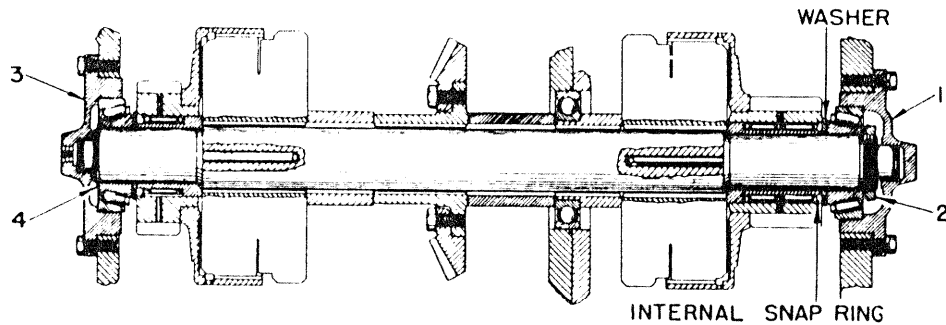

Figure 7
2. Disconnect the hydraulic line to bearing retainer (3) Figure 7.
4. Remove the R. H. bearing retainer (1) Figure 7.
5. Loosen bearing nut (2) enough to permit removal of snap ring (4).
6. Replace bearing retainer (3), Figure 7, for support. (If drum is to be removed, remove L. H. drum shaft nut.)
9. Remove bearing nut (2) Figure 7.